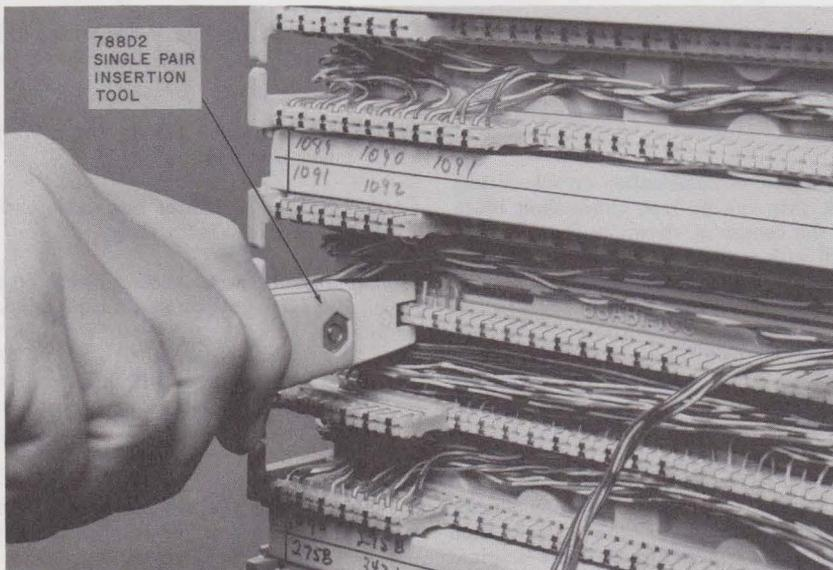

Fig. 26—Seating Conductors With Single-Pair Insertion Tool
- (2) Using the single-pair insertion tool, seat the conductor firmly in the bottom of the index strip (Fig. 26).